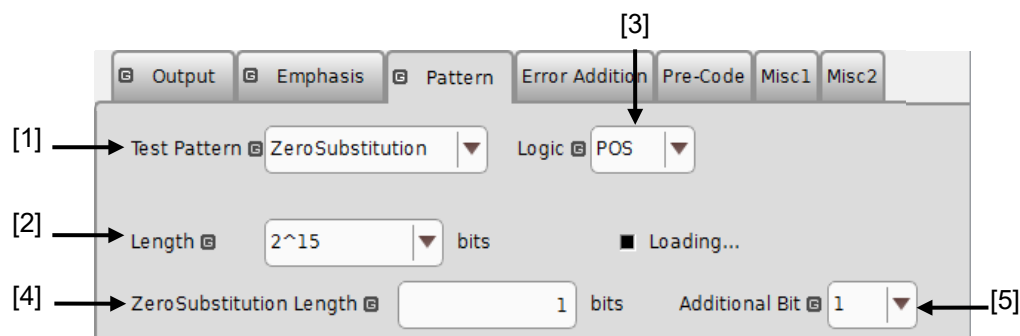

Figure 5.3.3-1 Setting Items for ZeroSubstitution Pattern
- [4] Set the number of 0-insertion (substitution) bits. The number of available 0-insertion bits varies depending on the pattern test signal selected from the Length drop-down list ([2] in Figure 5.3.3-1) as follows.